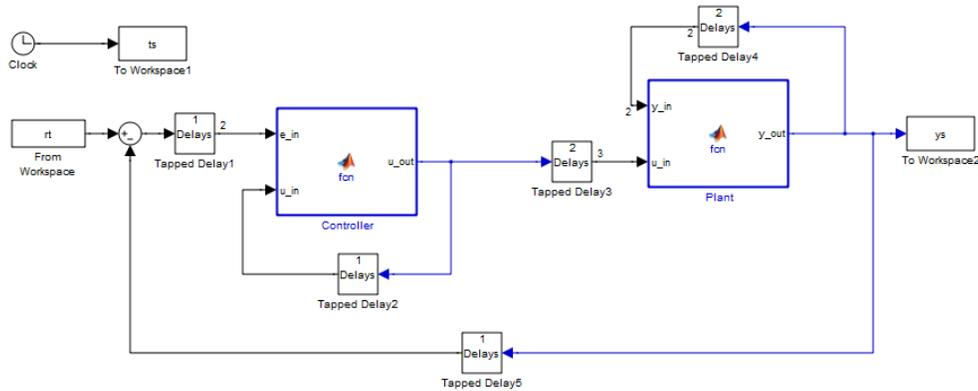

Figure 4. Finals version of closedloop_DE.mdl.
e) Open both **closedloop_DE.mdl** and **openloop_DE.mdl**. Select the plant model (the input, output, and feedback elements) from **openloop_DE.mdl** and copy them to **closedloop_DE.mdl**. After some editing, your final system should look like that shown in Figure 4. Note that the input to the plant is now **u_in**. To make this change, you will need to edit the Plant block and code.